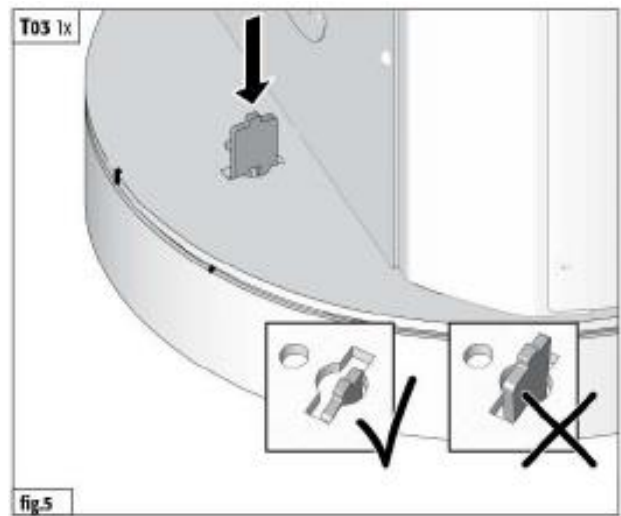

Figure 6: Insert Second Rotation Lock Stopper
5. Rotate the stove back to the zero position. Rotate the stove in the opposite direction as Step 4 slightly. Slide the second Locking Stopper down into place (see fig. 6).